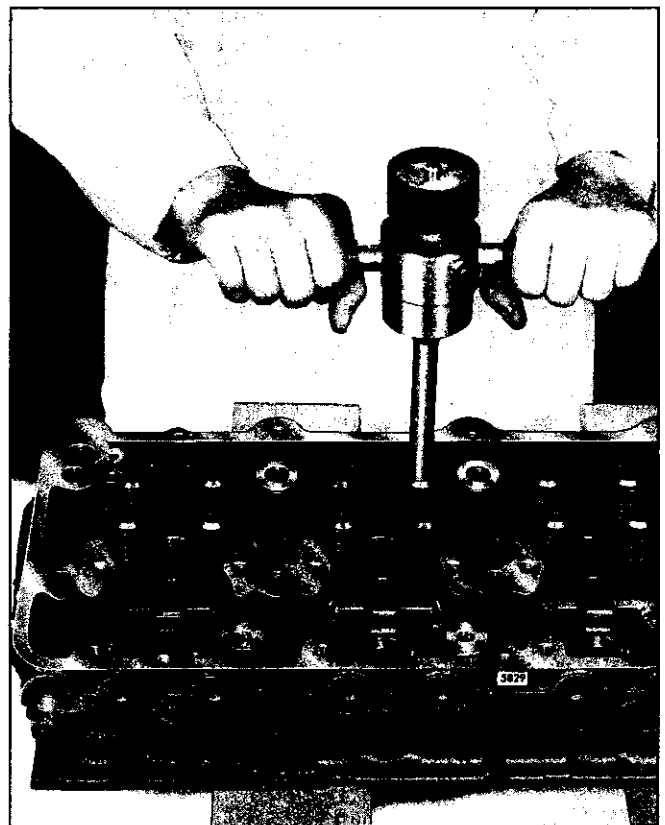

Fig. 19 – Checking Valve Opening Pressure with Gage J 25076-B
11. With the exhaust valves installed in the cylinder head, use spring checking gage J 25076-B and note the gage reading the moment the exhaust valve starts to open (Fig. 19). The minimum pressure required to start to open the exhaust valve must not be less than 33 pounds for a two-valve cylinder head or 25 pounds for a four-valve cylinder head.